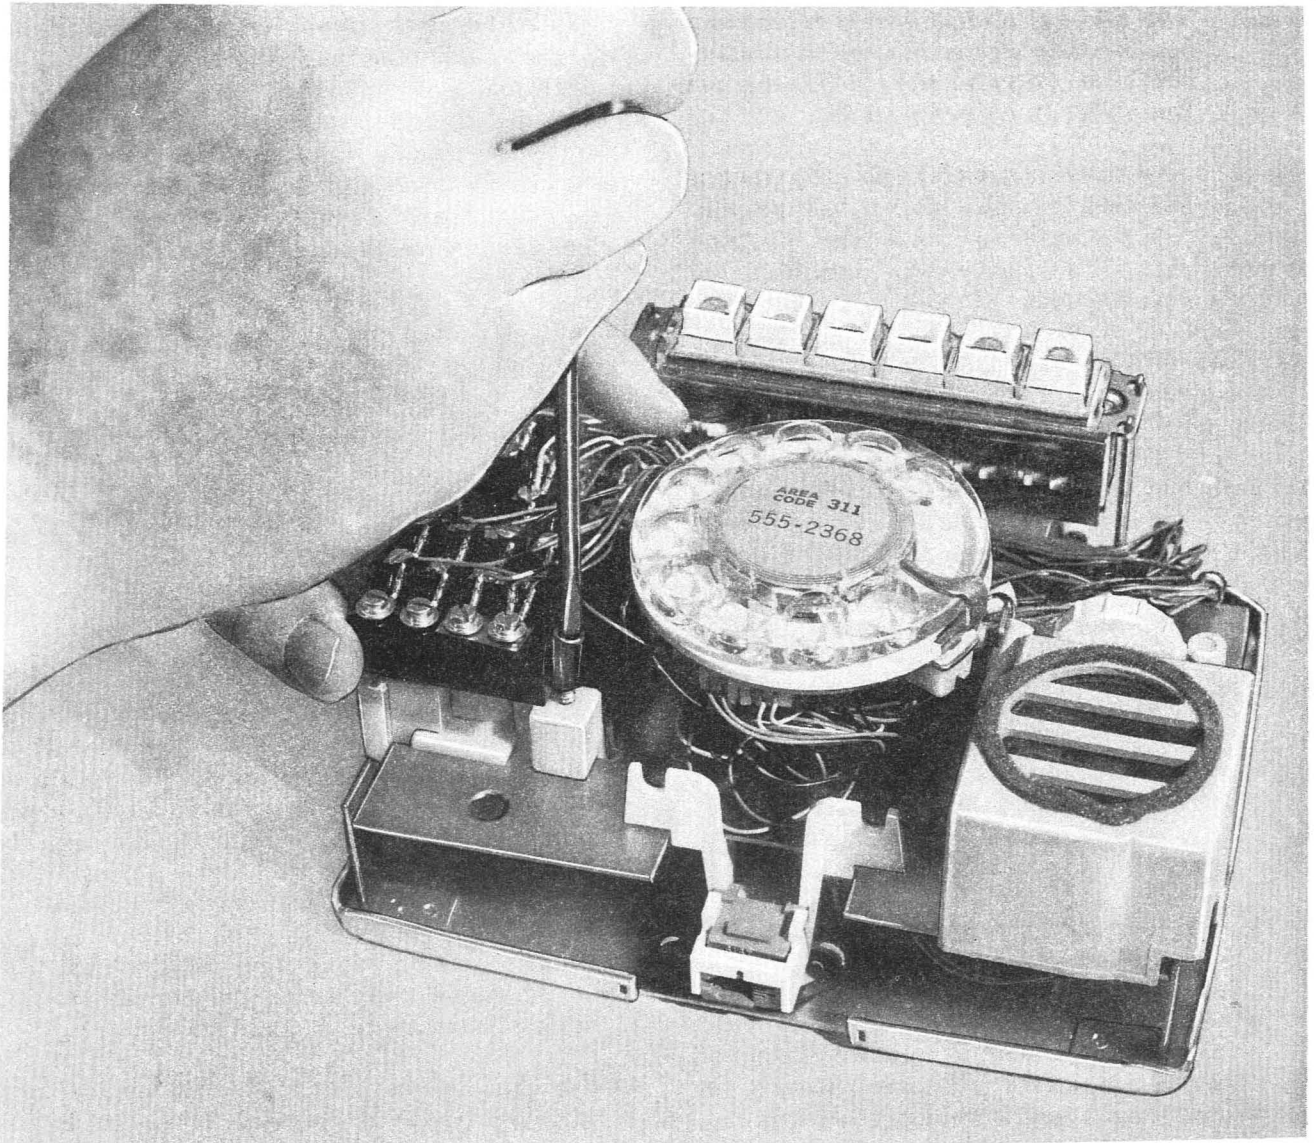

Fig. 4—Removing Terminal Board Mounting Screw
- (1) Insert tabs on faceplate into slots at top edge of housing. Use a KS-21107 type releaser or equivalent to depress the tab of the faceplate retainer clip while seating the faceplate. To insure proper positioning of the retainer clip, raise the handle of the releaser well above horizontal, as shown in Fig. 4 before withdrawing the tool.
- (2) If installing 2853A faceplate (2853AM telephone set) place station number card in front of faceplate in standard manner.
5.03 When dial replacement is necessary in the 853AM telephone set, use an 8RA dial. First remove terminal board mounting screw as shown in Fig. 4. Rotate terminal board upward to gain access to dial mounting screws. Remove dial by loosening adapter mounting screws and springing dial brackets sufficiently to release dial from locating pins. Trans-
5.04 When dial replacement is necessary in the 2853AM telephone set, use the 35Y3A dial. First remove terminal board mounting screw as shown in Fig. 4. Then rotate terminal board upward to gain access to dial mounting screws.